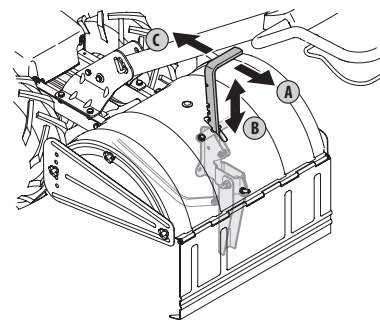

Figure 10
Pull back on the depth adjustment bracket (A) and push down (B) until the bracket reaches the highest notch. See Figure 10. Then release the bracket (C).